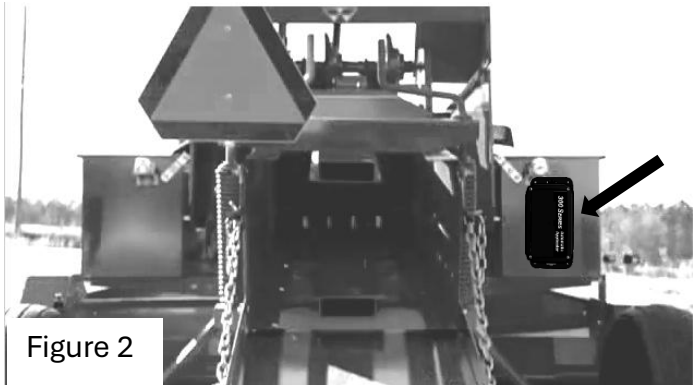

Figure 2
Mount the EOB sensor assembly on the right side of the baler chamber. The face of the sensor needs to be parallel to the arm attached to the needles (similar to Figure 2). Mount the sensor 5-8" from the pivot point, in a well-suited place, to reduce damage to the sensor by needle arm when returning to the home position. Mark and drill two 3/8" (10mm) holes. Install the sensor using two 5/16" x 1" allen head bolts, locks, and nuts. The end of the sensor needs to be no greater than 1/4" (7mm) away from the needle arm. Tighten nuts on sensor after adjustment.
Open the left access panel as shown (Figure 2). The end of the sensor (A) will be aligned with the bolt head (B). With the tractor turned off and the PTO disconnected from the tractor, rotate the balers flywheel so that the bolt head (B) is at it lowest position. Locate bracket 001-4648RB (B) and loosely install the sensor. Align the end of the sensor over the bolt head (B) and mark the two 3/8" (10mm) holes that will need to be drilled to mount the bracket (C). Install the bracket using two 5/16 x 1" bolts, flats, locks, and nuts. Close the access panel (Figure 3) and adjust the sensor so that it is 1/4" (7mm) away from the bolt head (B). Tighten the nuts on the sensor after the adjustment is made. Leave enough slack in the wire to allow the access door to function.